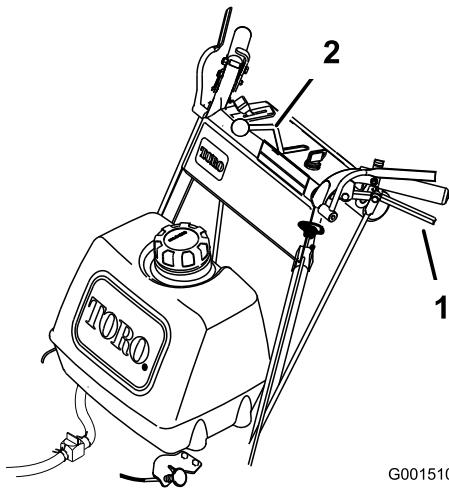

Figure 12
4. Slowly release the drive levers to move forward (Figure 12).
To go straight, release drive levers equally (Figure 12).
To turn, squeeze the drive lever on the side and direction you want to turn (Figure 12).
From neutral, slowly squeeze the drive levers to move rearward (Figure 12).